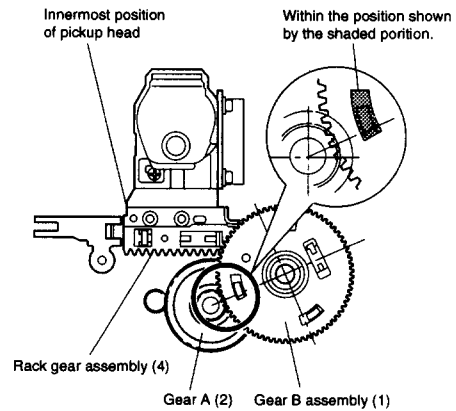

Fig. 2-5-3
2. Mount the gear B assembly (1) by pushing the pickup head (5) to the disc motor side (arrow A direction) and shifting the upper gear of the rack gear assembly (4) in the arrow B direction.
3. Fit the positioning holes on the upper gear and lower gear of the gear B assembly (1) and mount on the pickup mechanism assembly with the phase matched. at this time, note that the phase of the gear B assembly (1) and the gear A (2) show's the status in the Fig. 2-5-3.